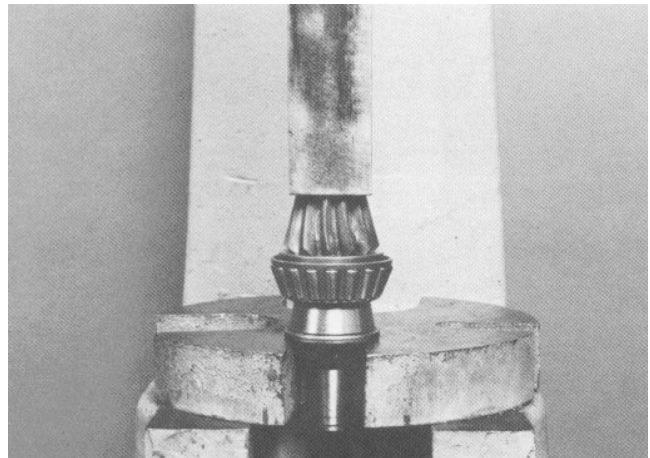

Figure 35
2. Press the inner pinion bearing onto the pinion drive gear. Support the bearing on the inner cup of the bearing **ONLY WHEN INSTALLING** (Fig. 35).